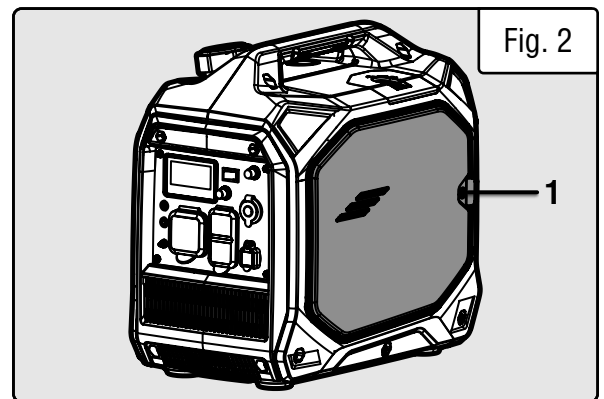

Fig. 2
1. Unscrew the side panel screw (Fig. 2 - 1) and remove the side panel. Remove and wipe the oil dipstick (Fig. 3 - 1) with a clean rag. Insert the dipstick into the oil fill opening without screwing it in.